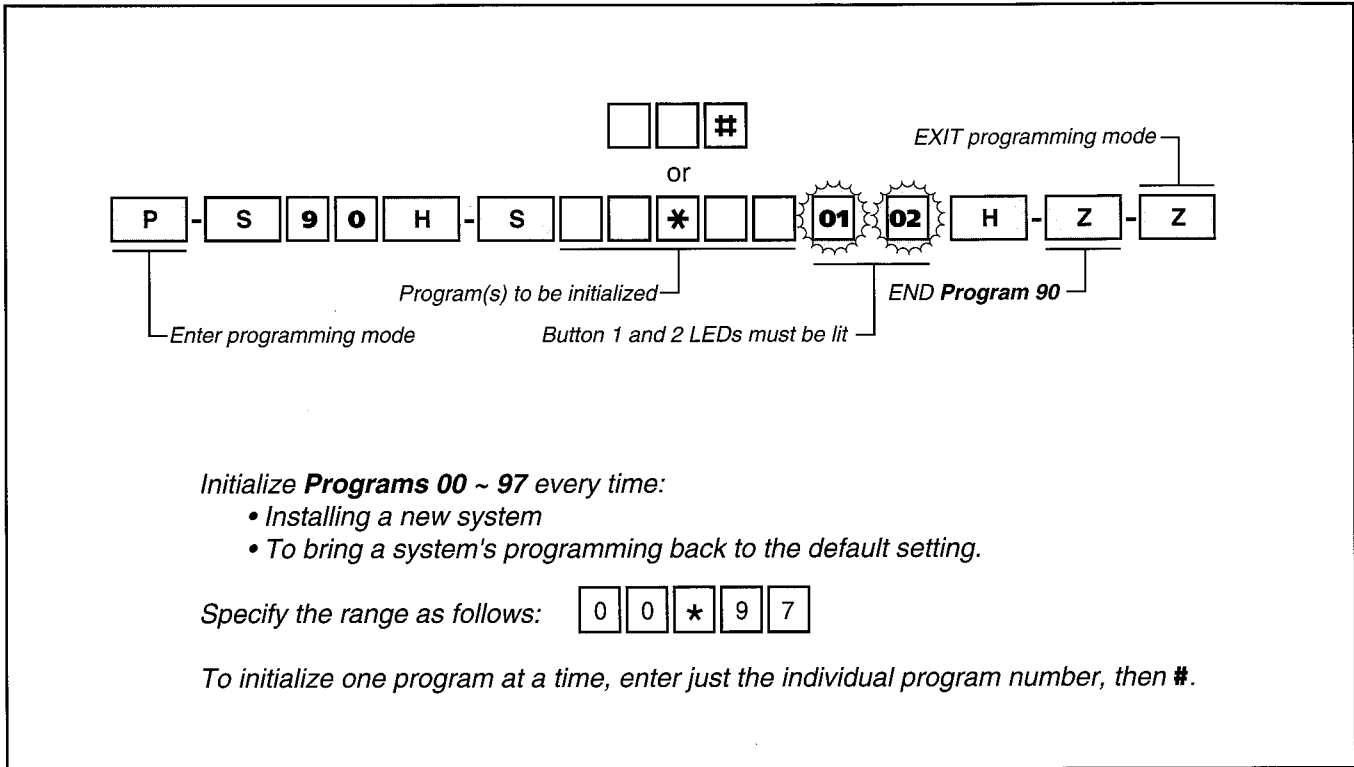

FIGURE 1-3
3.35 Initialize Programs 00 ~ 97 Data with Program 90: Always initialize a system with **Program 90** when it is first installed, or when its software must be brought to the default configuration. If only minor programming changes are being added to a system in which the programming is basically correct, do not run **Program 90**. Follow the steps in Table 1-C and Figure 1-3 to run **Program 90**.